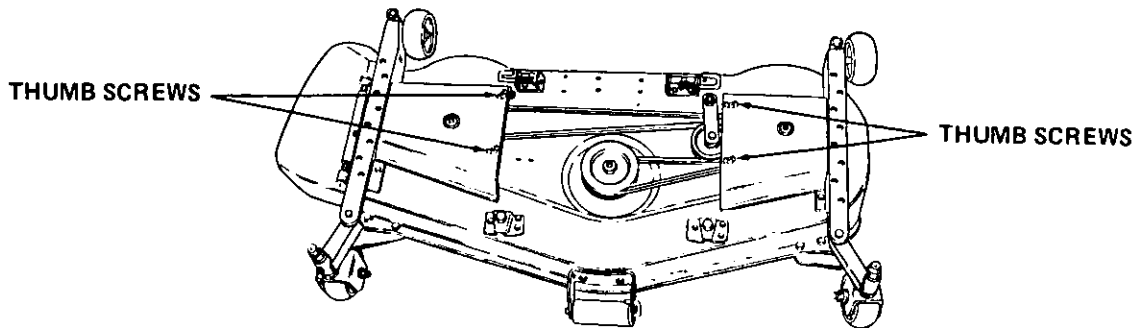

Figure 26
1. Remove the thumb screws that secure both spindle belt covers to the deck. Refer to Figure 26.